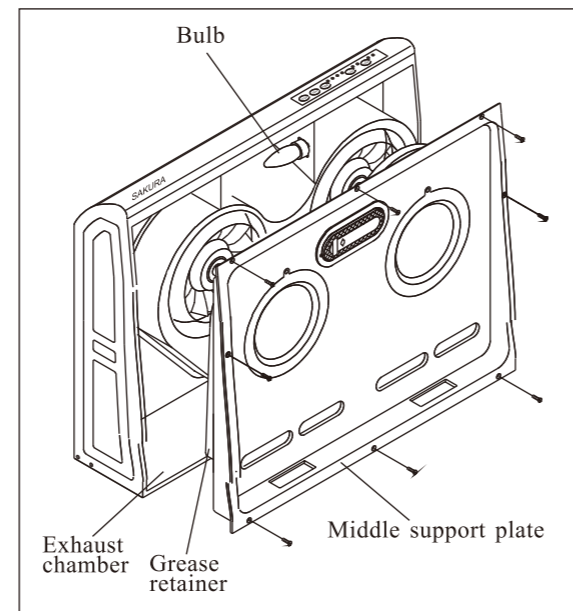
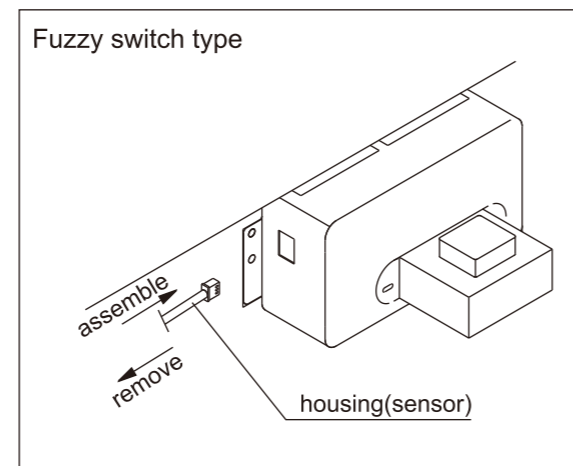

Fig. 10 Remove the middle support plate
Fig. 11 Plug the housing sensor
- Loosen the screws on the middle support plate with a philips screwdriver. Remove the middle support plate and then pull out wire housing of sensor. After wire power supply cord, please make sure to plug the housing of sensor in before you re-screw the middle support plate up. (Fig.10/Fig.11)